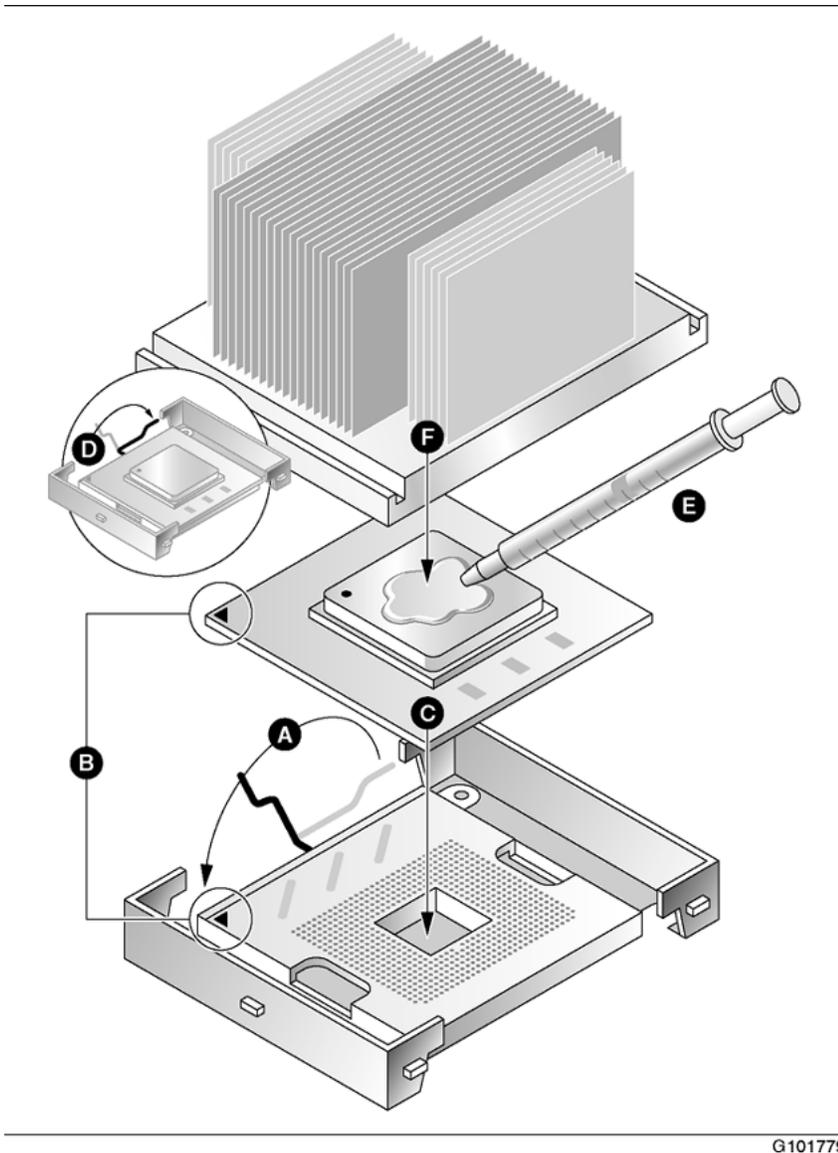

Figure 33: Install new CPU
2. Install the new microprocessor and heat sink as shown in Figure 33: Install new CPU on page 155. See also the description that follows on 2.a on page 155.